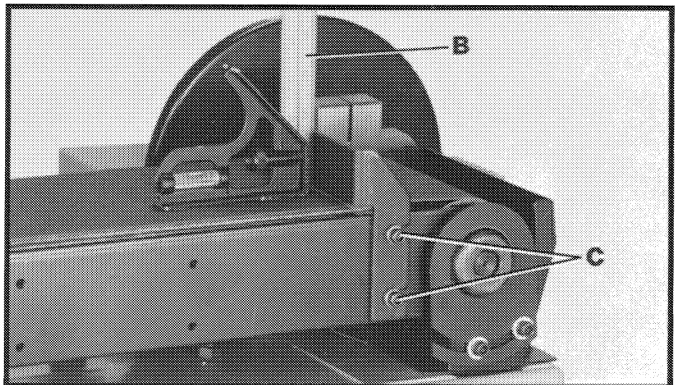

Fig. 26
3. Place a square (B) Fig. 26, on the sanding belt with one end of the square against the backstop, and check to see if the backstop is square with the sanding belt.
4. If an adjustment is necessary, loosen two screws (C) Fig. 26, and adjust the backstop accordingly. Tighten screws (C) after adjustment is made.